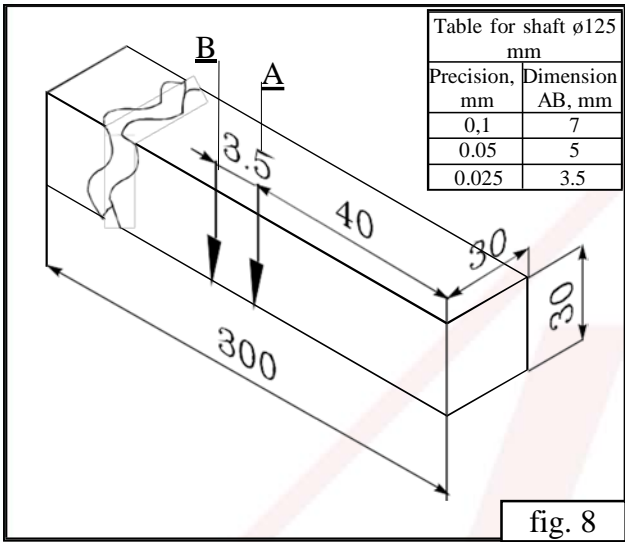
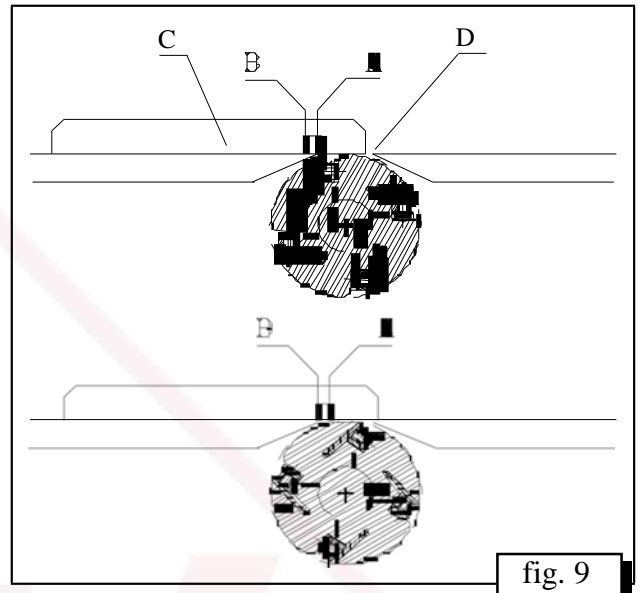

fig. 8
fig. 9
Adjustment it is possible make through with own hand made caliber (fig. 9) or about the dial indicator. The proceeding table is fixed in a factory the-manufacturer above a shaft on 0.8 - 0.85 mm. If necessary it is possible will adjust by means of caliber and a backlash device or with the dial indicator.
- .. The adjusting gauge (fig. 8), made out of hard wooden, is placed on the initial table C (fig. 9) against the pressing screw.
- .. The pointer A should coincide with the edge of the table (fig. 8).